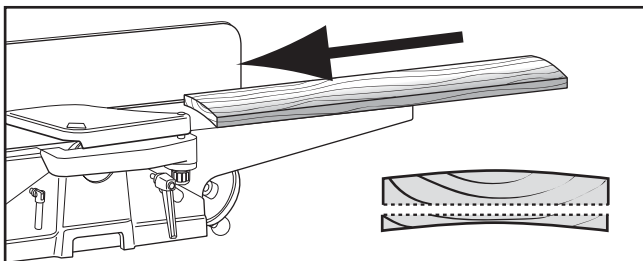

Figure 33. Surface planing on the jointer.
1. **Surface Plane on the Jointer:** The concave face of the workpiece is surface planed flat with the jointer (see **Figure 33**).